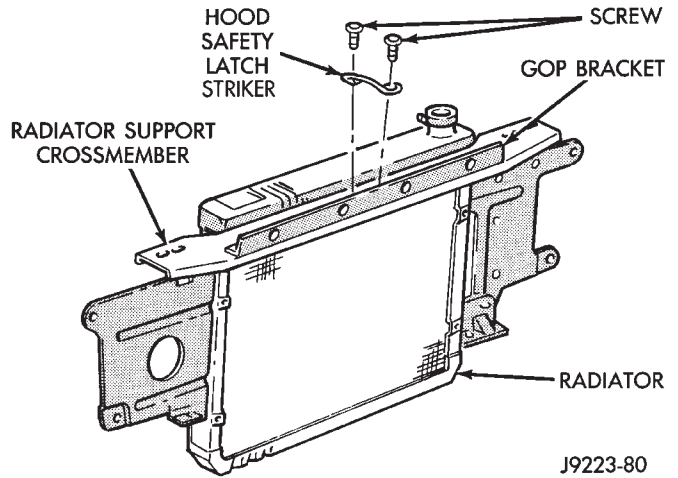

Fig. 8 Hood Safety Latch Striker
- (1) Remove striker screws from radiator support crossmember (Fig. 8).
- (2) Remove striker from crossmember.